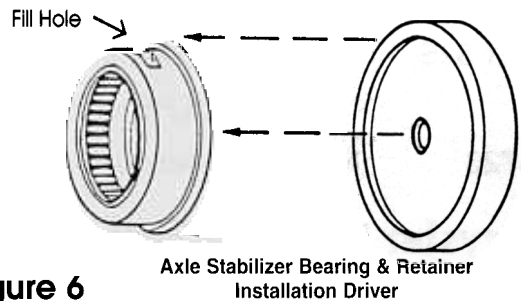

Figure 6
4. If the final drive is tight and will not move up and down, apply Lock-Tite™ adhesive/sealant to the outside press area of the stabilizer. Drive the Teckpak Axle Stabilizer in where the original seal and sheet metal oil retainer previously were located. The fill hole must be lined up with the hole in the bearing retainer, which basically is straight up (**Figure 6**).
The Teckpak Axle Stabilizer Bearing and Retainer Installation Driver T-404-303 makes this job easy (**Figure 6**).